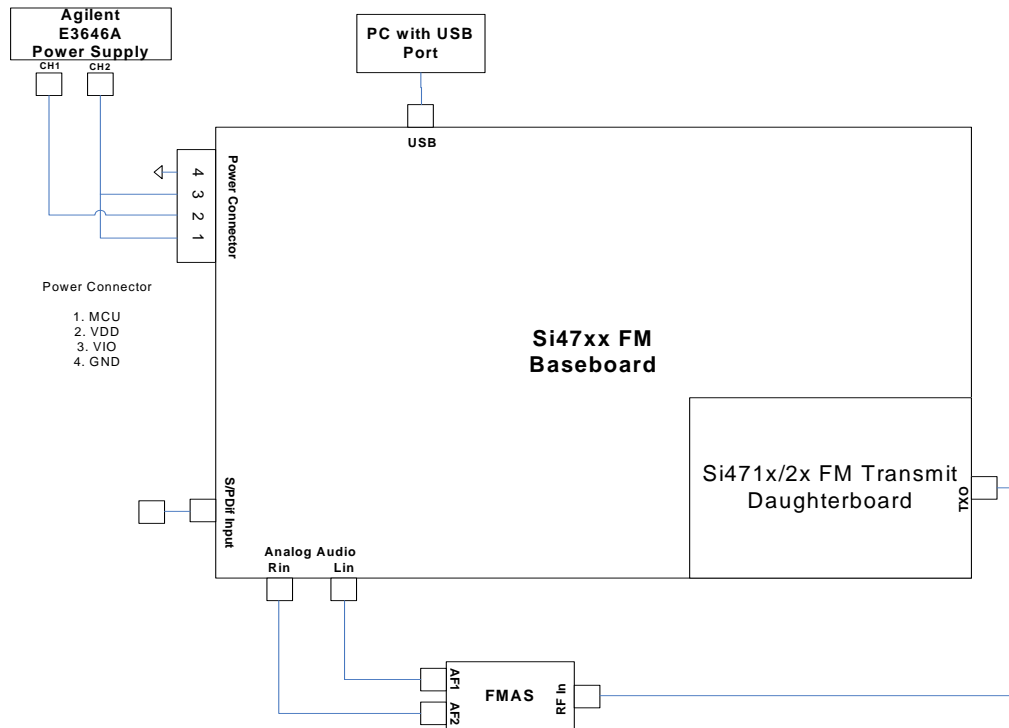

Figure 10. Si471x/2x Transmitter Measurement Analyzer Setup
1. Connect test equipment as shown in Figure 10.